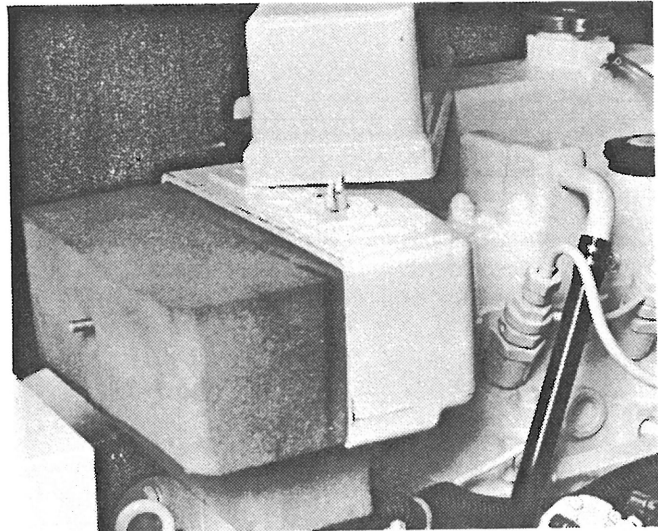
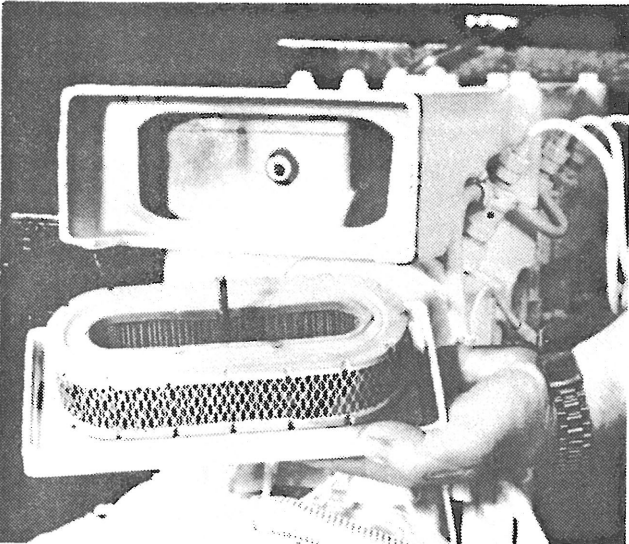

Figure 31 - Remove cap
Figure 34 - Removing air filter, 892
NOTE: Figures 31 through 33 show new style filters. Figures 34 and 35 show old style. The new filter element may be retro-fitted in units which currently have the pleated paper filter elements. See your local dealer.
- a. Remove cleaner by unscrewing center cap screw (figure 31).